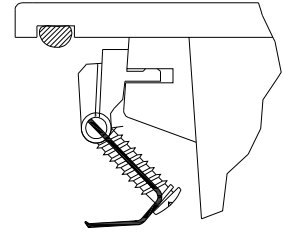

Fig 1.
- Apply a generous continuous bead of silicone into the channel around the underside perimeter of the sink (fig1).